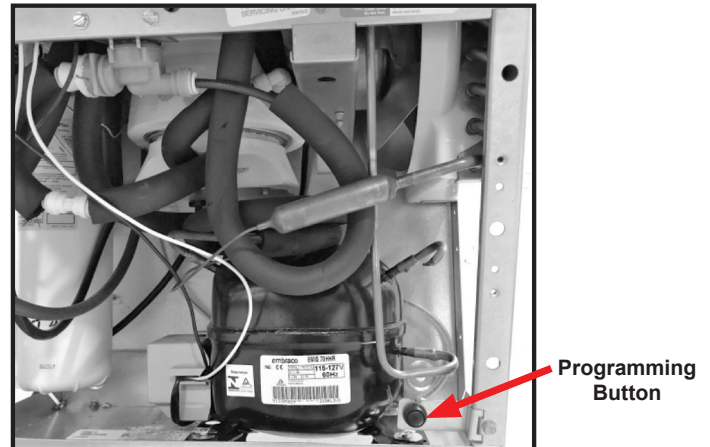

FIG. 13
- 1) Remove lower cover on refrigerated unit by removing (2) screws.
- 2) Button is located in lower right corner of unit (See Fig. 13).